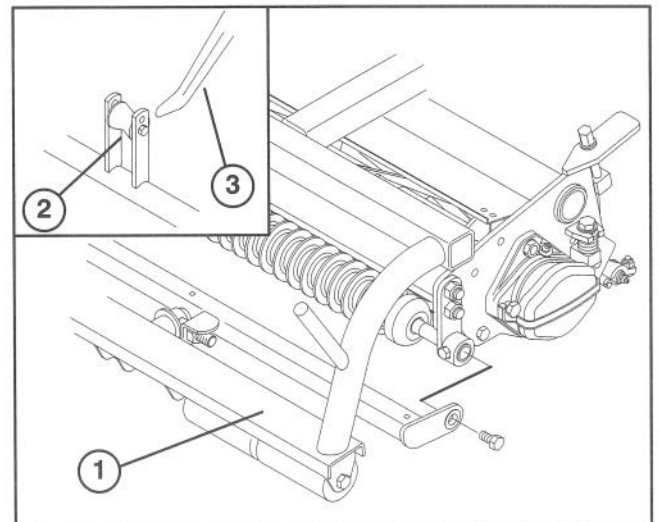

Figure 9
2. Slide the cutting unit under the pull frame while hooking the lift roller onto lift arm (Fig. 9).